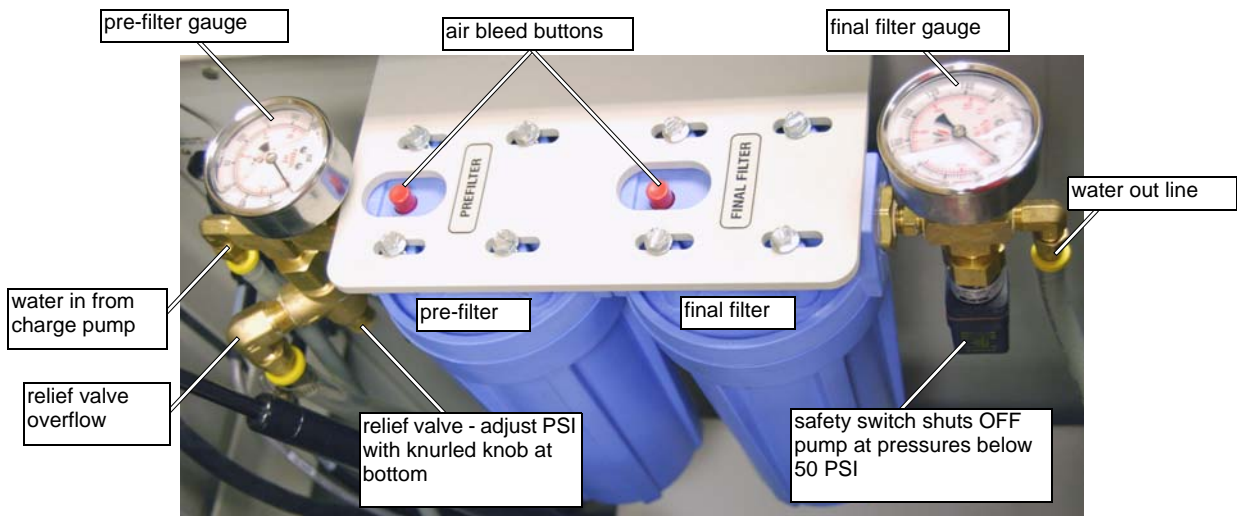

Figure 5-51: Pump Internal Water Filtration System
3. When the Charge Pump is turned ON, water from the white tank reservoir feeds the preconditioned water to the 10” blue filters in the pump cabinet (Figure 5-51).
Note: The pre-filter gauge (Figure 5-51) reads the pressure of the charge pump before the filters (Pressure should read higher than 75 psi and can be adjusted up to 120 psi)